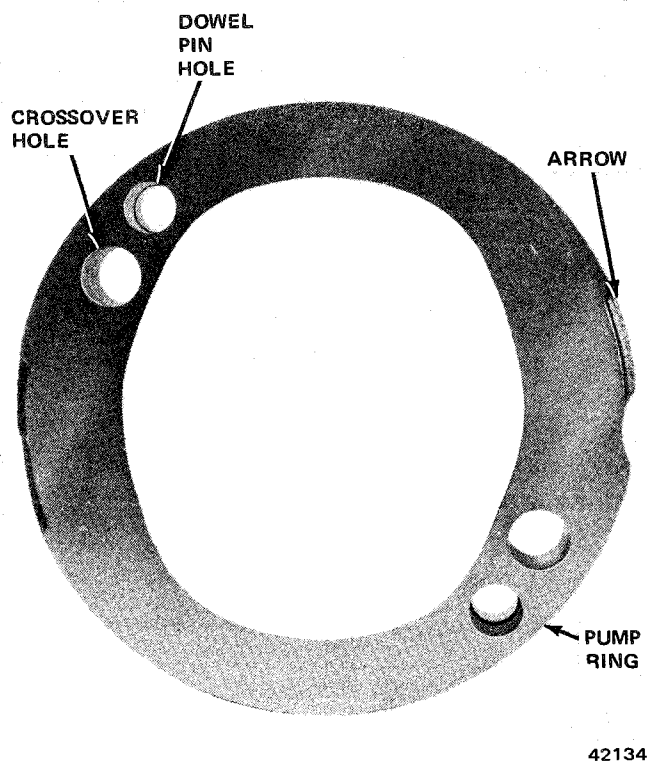

Fig. 2L-57 Pump Ring Dowel Hole Locations
(8) Install pump ring on dowel pins and over rotor and thrust plate. Pump rotation arrow on pump ring must face upward when ring is installed (fig. 2L-58). Do not displace end plate O-ring during ring installation.
(9) Install rotor vanes in rotor slots (fig. 2L-59). Rounded edges of vanes must face outward.
(10) Lubricate pressure plate outside diameter and chamfered surface with petroleum jelly.